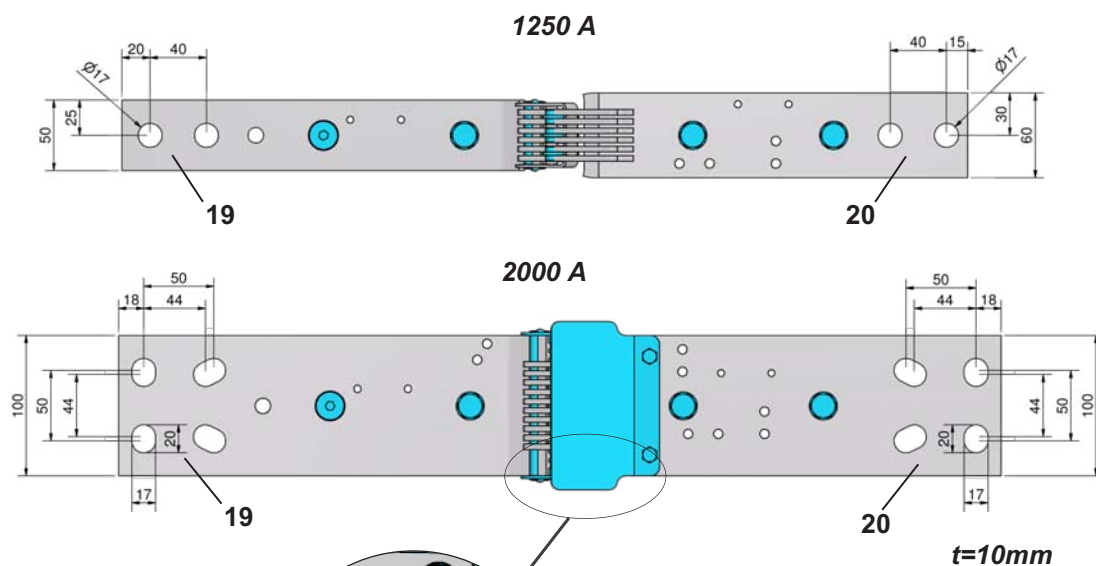

Fig. 10a: Terminal contacts
- Actuate the hand or motor drive to closed position by means of the hand crank to check whether the main circuit contact system (5) is centred when it enter the impact finger contacts (7) (Fig. 10a+b).